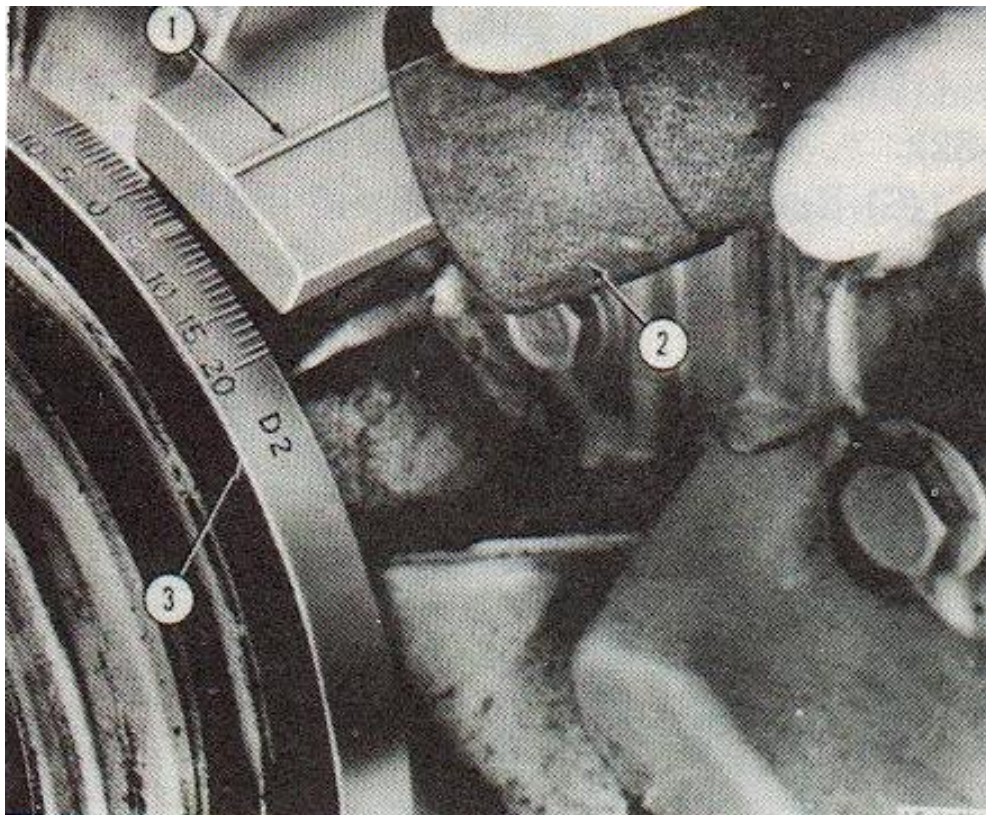

Figure 2-30. Timing engine with light
- (7) While observing timing line on timing chain cover pointer with timing light, ignitor shall be rotated until timing line appears alined with 5 degree advance mark on timing scale on crankshaft vibration damper. Refer to figure 2-30.